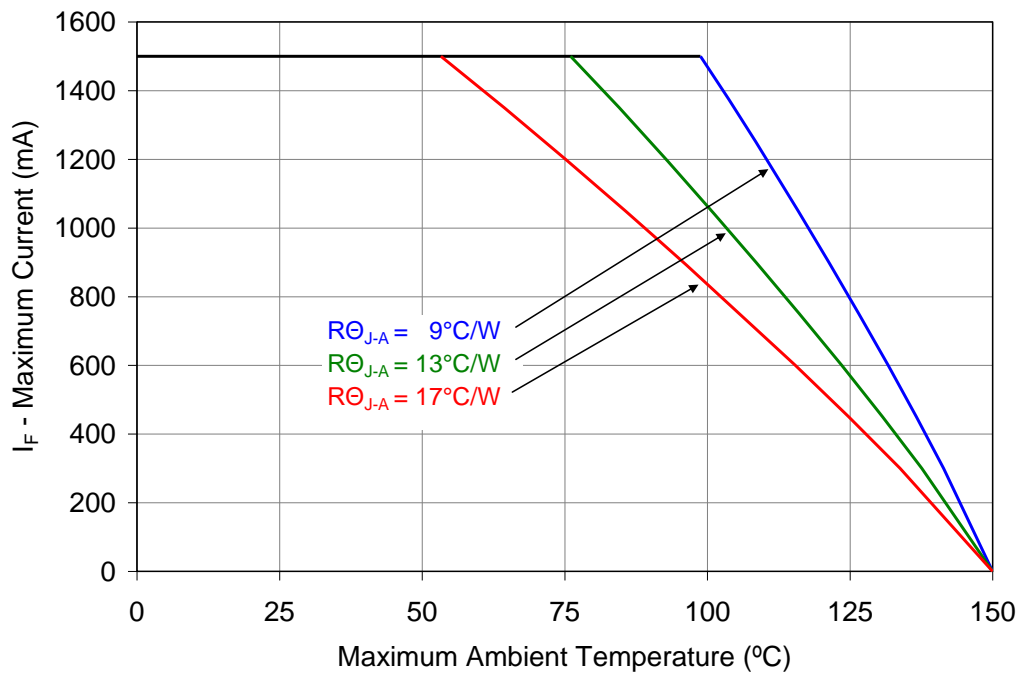

Figure 10: Maximum forward current vs. ambient temperature based on $T_{J(\text{MAX})} = 150^\circ\text{C}$.
1. Maximum DC forward current is determined by the overall thermal resistance and ambient temperature. Follow the curves in Figure 10 for current derating.
Notes for Figure 10: